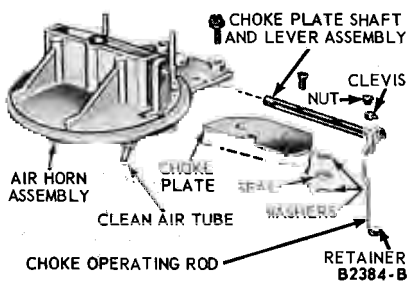

FIG. 9—Air Horn Assembly—Typical
3. Remove the air horn retaining screws, lock washers and the carburetor identification tag. Remove the air horn and air horn gasket (Fig. 9).